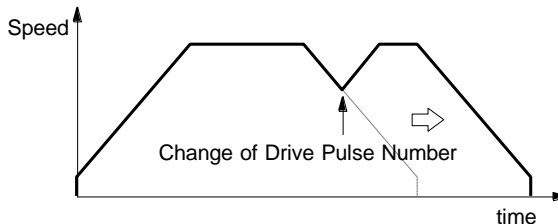
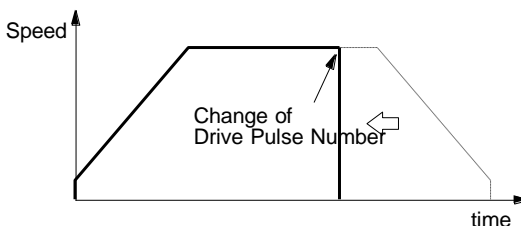

Fig. 2.1-7 Change of Drive Pulse Number in Deceleration
Fig. 2.1-8 Changing Drive Pulse Number Less than Output Pulse Number
In acceleration / deceleration driving, if the rest of output pulses become less than the pulses at acceleration, and the drive pulse number (TP) is changed during deceleration, the driving accelerates again (Fig. 2.1-7). And if the output pulse number of changed drive pulse number (TP) is less than the number of pulses already output, the driving stops immediately (Fig. 2.1-8). In S-curve acceleration / deceleration driving, if the drive pulse number (TP) is changed during deceleration, the S-curve profile cannot be exactly tracked.